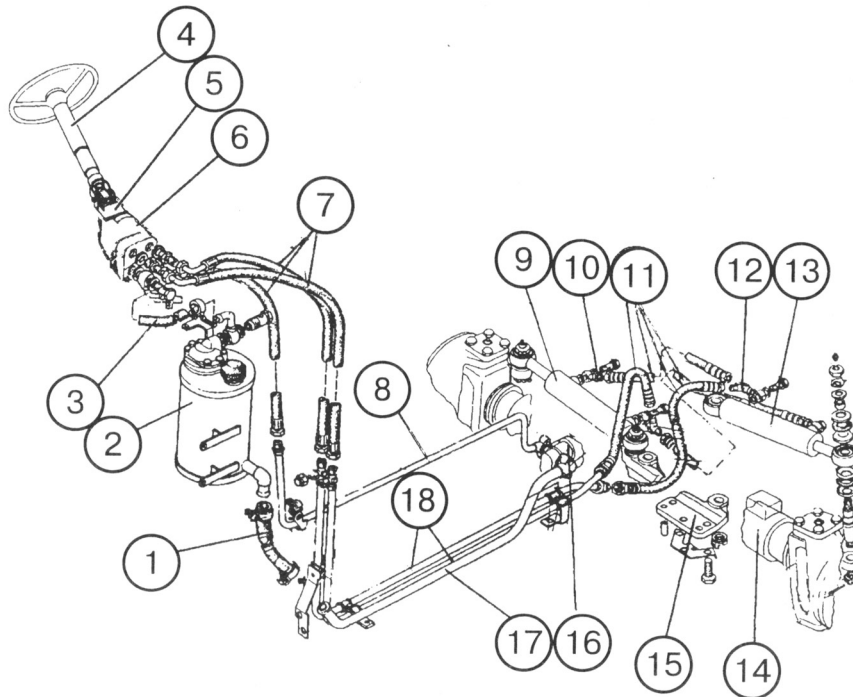

Fig. E-40. HSU schematic diagram:
The HSU unit is designed to control turning of the steering wheels and to reduce steering wheel efforts when turning the tractor. The HSU unit consists of a measuring pump (6) (Fig. E-40), two hydraulic
Two hydraulic piston cylinders (9, 13) (Fig. E-40) enable the driver to turn the front steering wheels of the tractor; they are installed in front of the FDA (14).